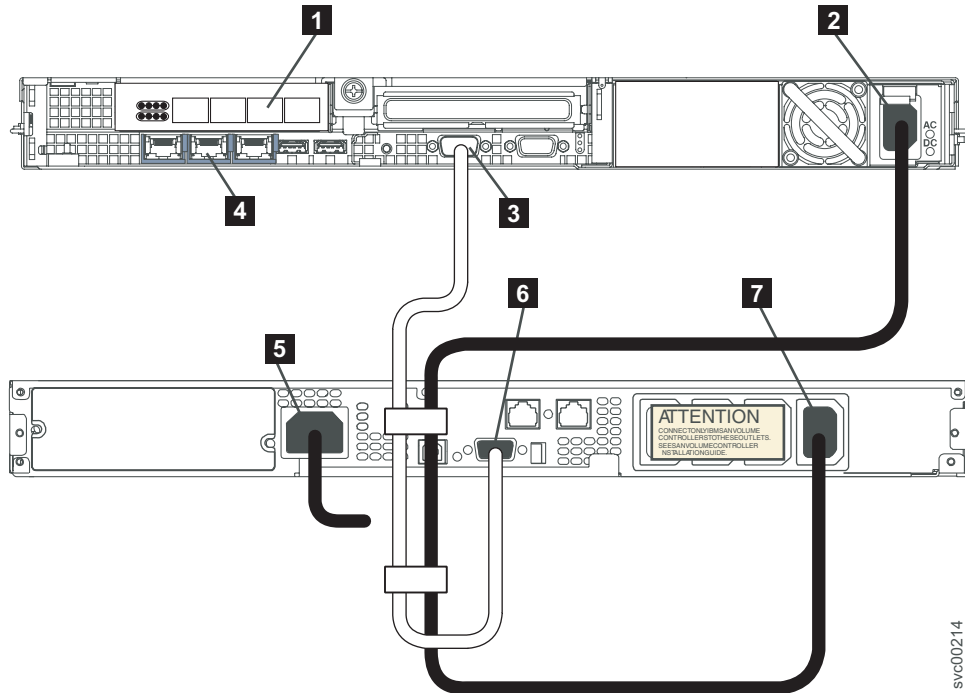

Figure 24. Connecting the SAN Volume Controller 2145-8G4 power cable to the 2145 UPS-1U
1. At the back of the SAN Volume Controller 2145-8G4, plug the power cable of the combined power and serial cable into the power connector **2**, as shown in Figure 24 on page 28.